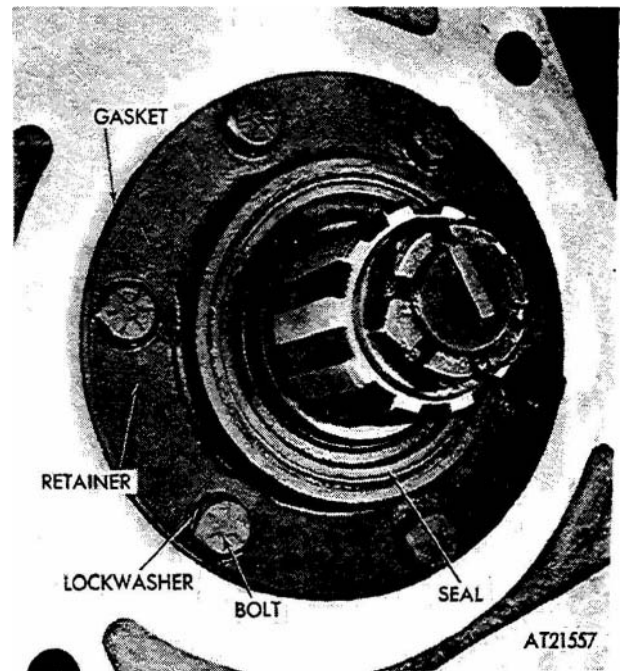

Figure 3-184. Front differential pinion seal, **removal** and installation.
(1) Remove front differential (refer to TM 9-2320-242-20).
(2) Disconnect six bolts and lock washers (fig. 3-184) securing retainer to differential and remove retainer and gasket.
(2) Lightly coat inside of seal (fig. 3-184) with grease (**GAA**).
(3) Slide new gasket and retainer over differential shaft and secure with six bolts and lock washers.
(4) Install front differential (refer to TM 9-2320-242-20).